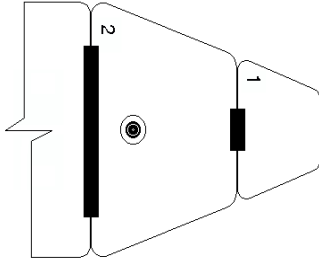

Fig.11
6.11. Check to ensure that the rigid boarding was assembled correctly: the segments should be arranged closely to each other without misalignment in the increasing order of the numbers from the bow to the aft of the boat. **The keel valve should fall within the centre of the hole of segment No.2 (Fig.11).** If the keel valve is outside the centre of the hole of segment No.2 adjust the keel position by taking hold of the valve flange and raising the boat bow by the lifeline. Reset the valve.